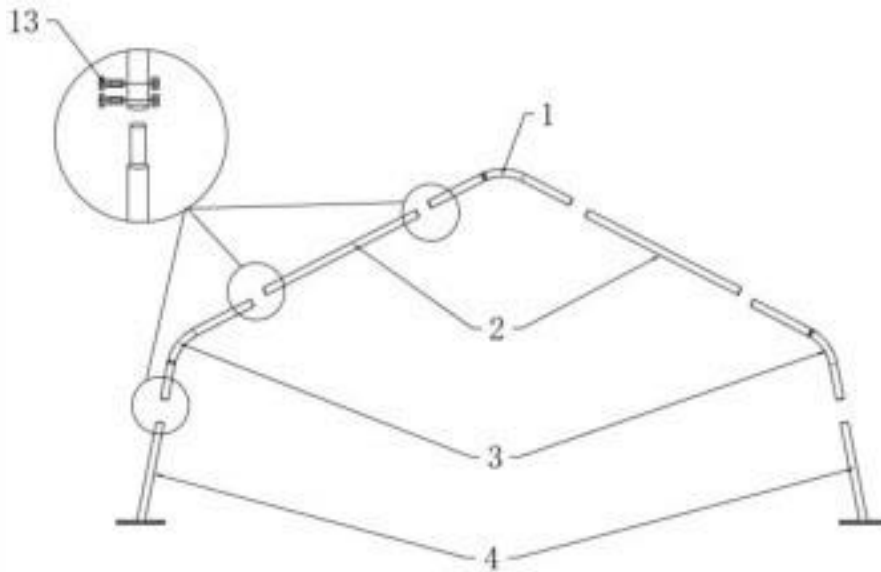

Figure 3
- As **Figure 3** shown find 1 piece of Roof Bent Tube (part code 1), 2 pieces of Incline Tube (part code 2) 2 pieces of Shoulder Bent Tube (part code 3) and 2 pieces of Standing Leg Tube (Part No. 4). To connect them by using Bolt M8x70 (part code 13) , which makes one group of peak arch. Please NOTE the direction of the screw. DO NOT install the bolts on the top of the truss where the fabric will rest.